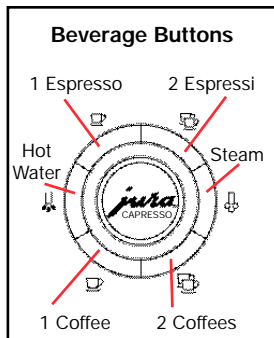

Fig. 3
5. Beverage buttons (see Fig. 3)